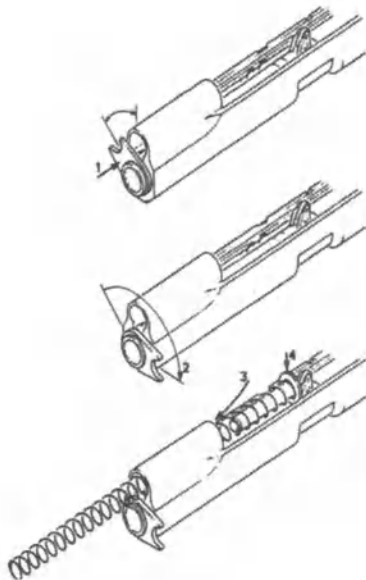

FIGURE 9 - INSTALLING BARREL BUSHING AND RECOIL SPRING/S
2. (See Figure 9). Place barrel bushing over muzzle of barrel and into slide until it is flush with the face of the slide, (STEP 1). Turn bushing clockwise as far as it will go. (STEP 2).